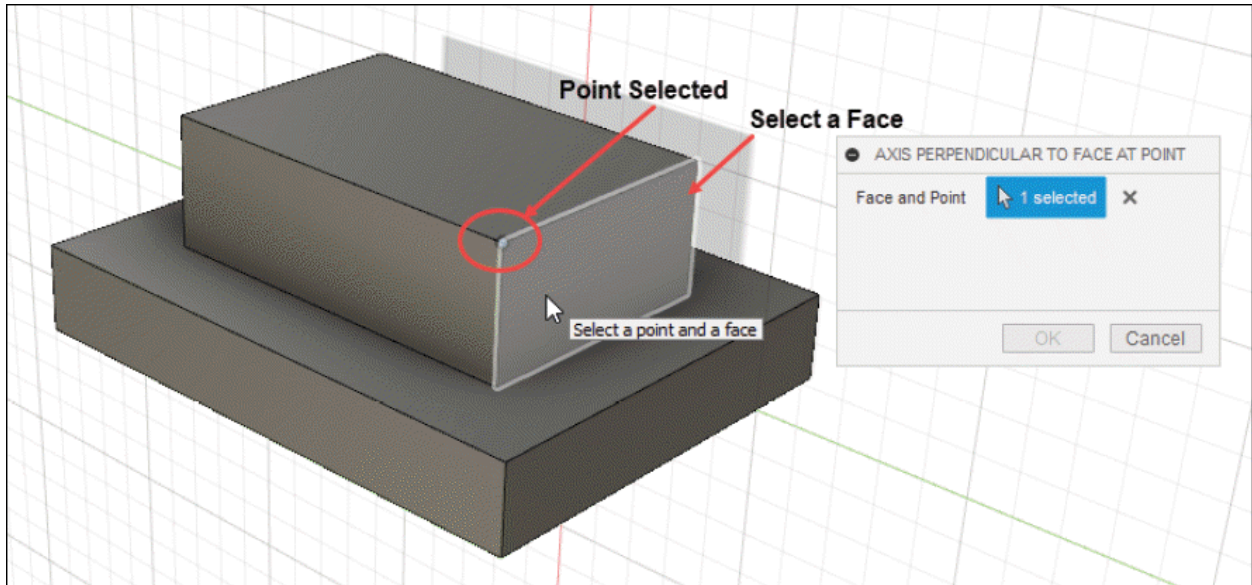

Figure-120. Selection of point and face for creating axis
- Click on the model to select the point and face as a reference for creating plane; refer to Figure-120.